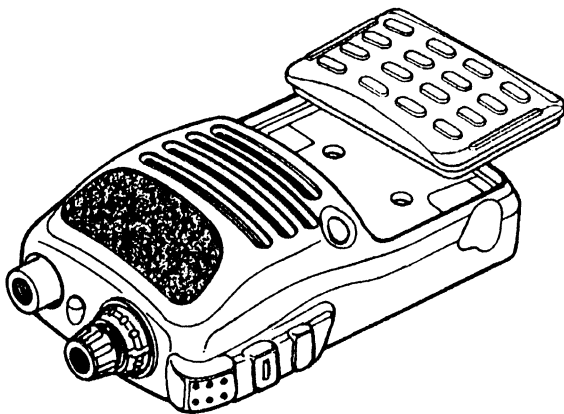

Figure 2.
- Remove the keypad unit from the front panel by using your fingernails to grasp both side of the unit and lift it free (Fig. 2).